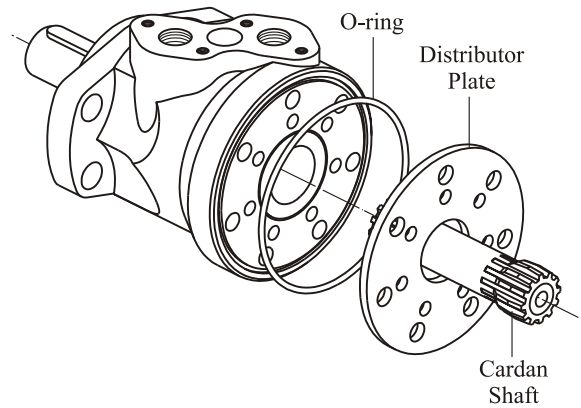

Fig.3
5. Remove cardan shaft (see Figure 3).
13. Lubricate and install O-ring in housing seal groove (see Fig.3).